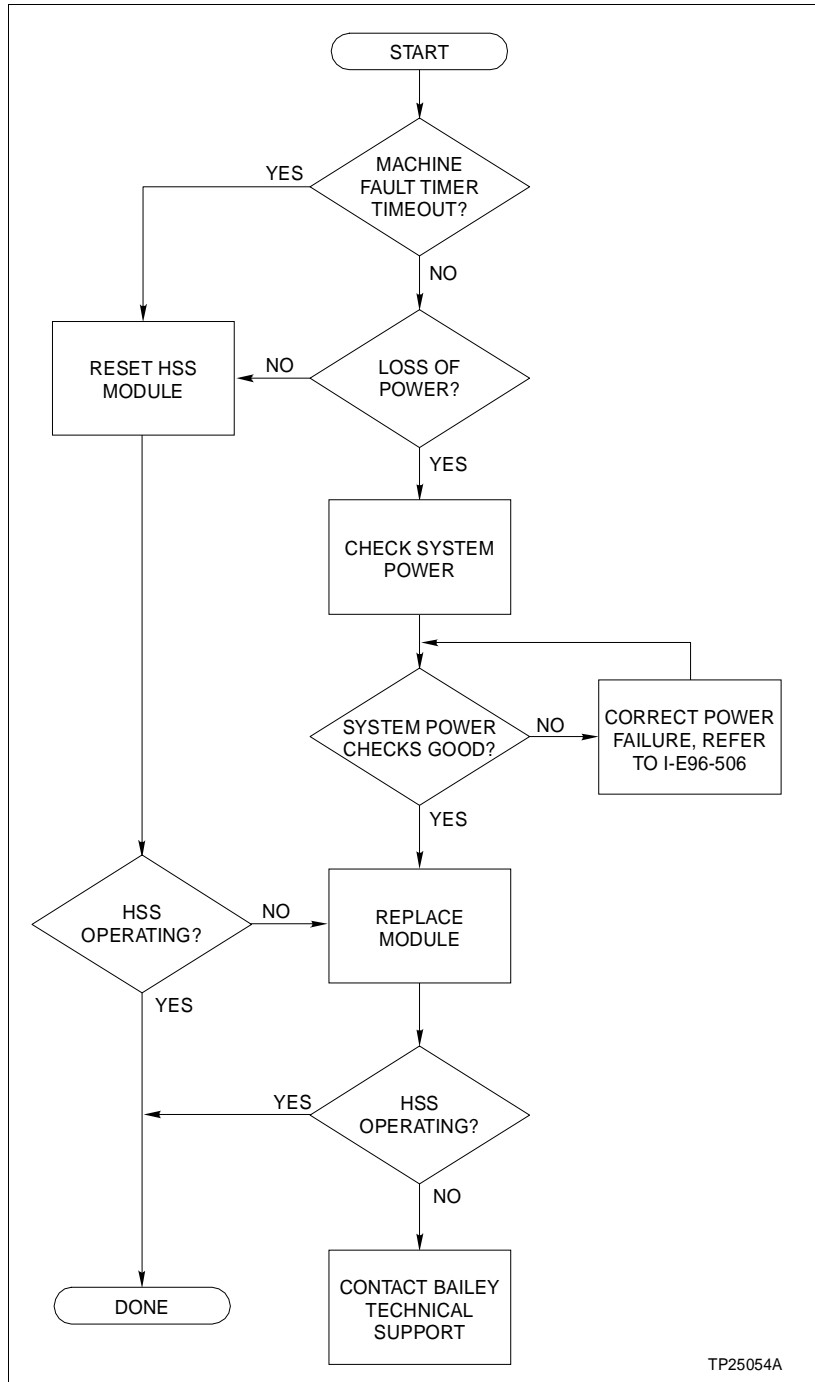

Figure 6-4. On-Line Failure Troubleshooting Flowchart
1. Use the troubleshooting flowchart in Figure 6-4 to locate the problem.